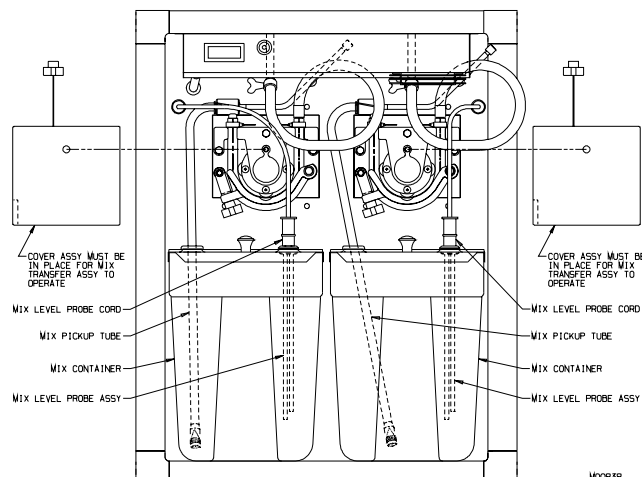

Figure 8-1
3. Clean the interior mix tank walls, the underside of the tank covers, and low mix probes (see figure 8-1 probe assembly only) with sanitizer solution and the appropriate brush provided.